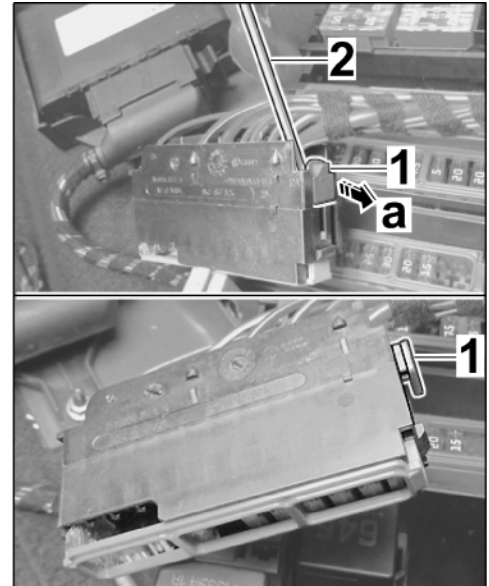

Figure 10
2.4.4 Use a screwdriver to open the secondary lock on fuse strips B and C. ⇒ *Figure 10-a-*